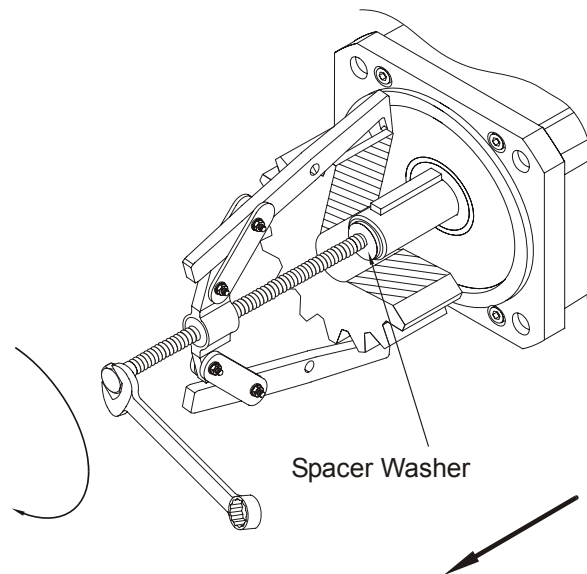

Fig. 3: Removing a power output element
- In order to remove gears, pulleys etc. please use a pulling device according to Fig. 3.